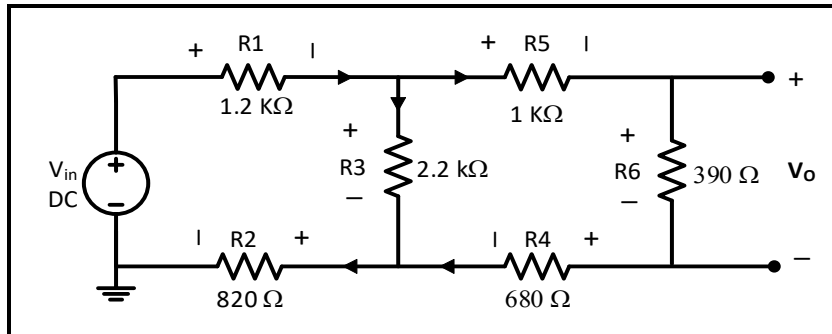

Figure 4.1
1. For the circuit of Figure 4.1, use PSPICE to generate a plot of (V_O) (use differential voltage marker), for a V_{in} sweep from 0 to 15 V in a 1.5V step, use cursors to mark data point at $V_{in} = 5$ and 10 V.
1. Connect the circuit of Figure 4.1.